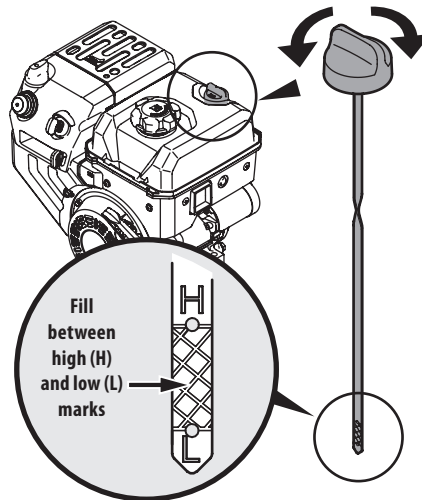

Figure 3-2
- Keep oil level between "H" and "L" marks on dipstick. See "Figure 3-2".
1. Remove the oil filler cap/dipstick and wipe the dipstick clean. See "Figure 3-2".
3. Remove the oil filler cap/dipstick. If the level is low, slowly add oil until oil level registers between high (H) and low (L), "Figure 3-2".
4. Loosen and remove the oil fill cap dipstick from the oil filler tube. Note the oil level, if oil reading on the dipstick is below the "L" mark, slowly add oil to reach the "H" level. See "Figure 3-2".